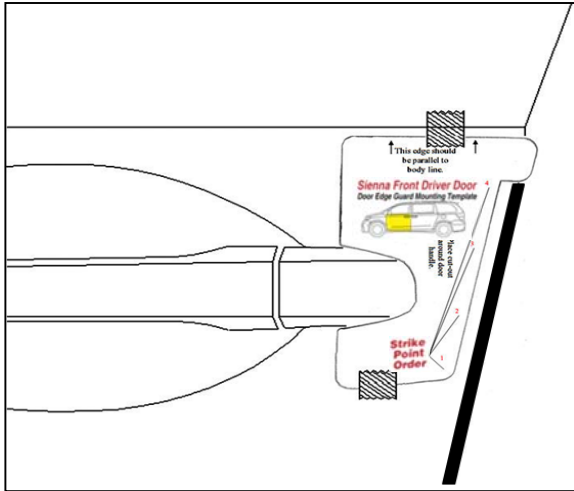

Fig. 2-2
**NOTE:** The top of the DEG can be identified by matching the profile of the DEG to the door profile (Fig 2-2).